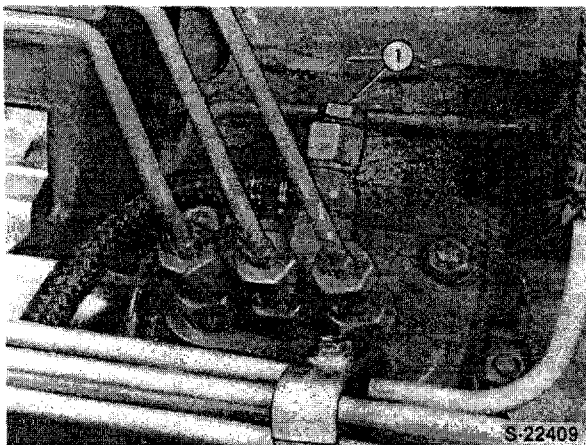

Figure 14
1. Open the bleed screw on the injection pump, Figure 14, and let the air escape.